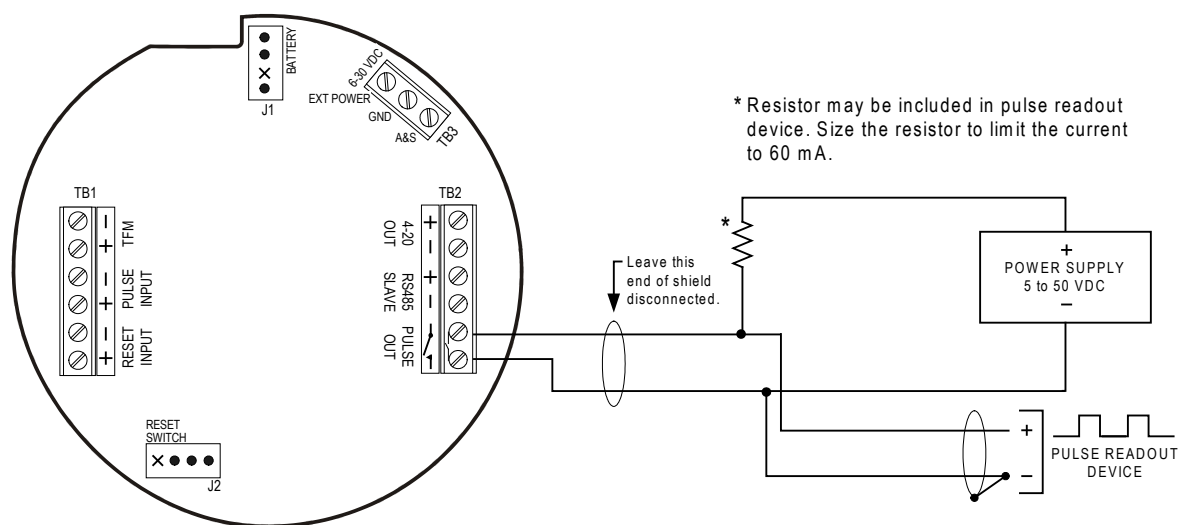

Figure 2.9—Pulse output wiring
8. Connect wiring for output signals, if appropriate. See Figures 2.9 through 2.14, pages 17 through 20.
The pulse output is a solid-state relay. Each pulse represents a user-defined volume. Because the circuit is isolated, it can be used in conjunction with any other feature on the MC-III EXP. A two-conductor cable from the MC-III EXP to the remote location is required (Figure 2.9). The maximum current rating of the pulse output circuit is 60 mA at 50 VDC.